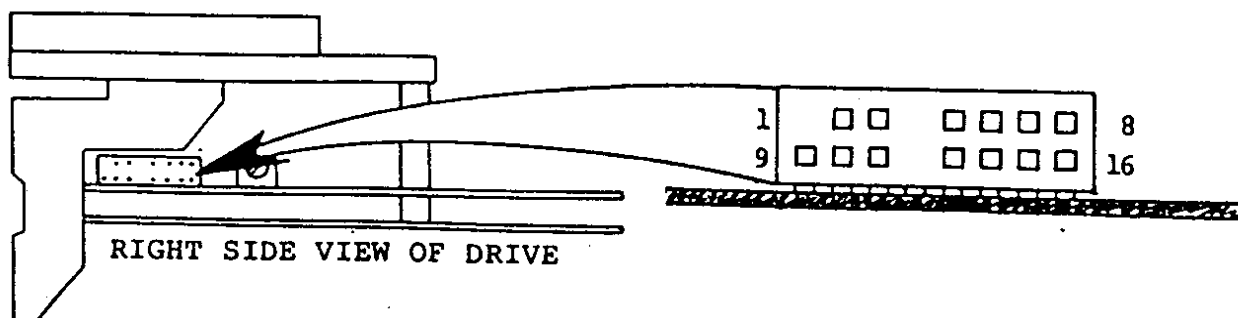

Figure A-1, Drive Power Connector
- 1) Unplug the Power Supply cable from the drive's Power Connector (right hand side of the drive as seen from the front panel). See figure A-1. Note the orientation. Do not disconnect the Power Board end of the cable.